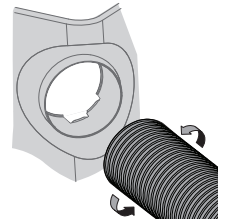

Figure 27
1. Thread end of hose (764-05335) without hose end (731-12353A) securely into the bag vent. There are two tabs on the lower inside part of the bag vent to allow for secure threading. See Figure 27.